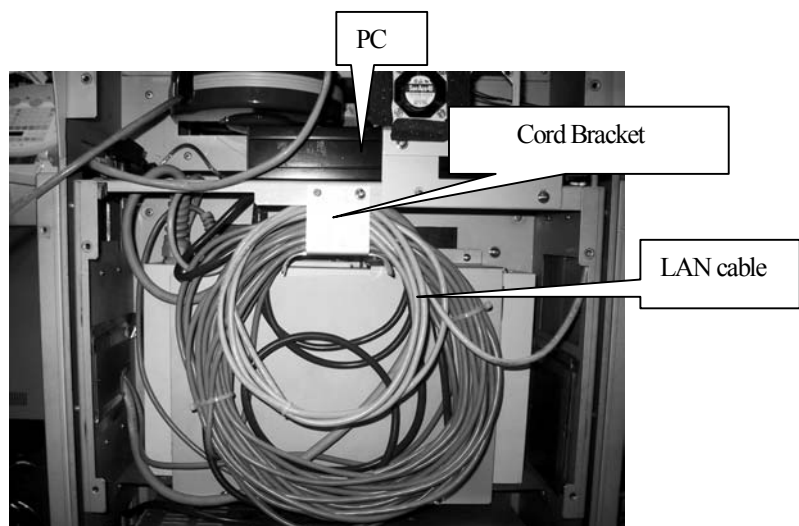

Fig.4-24 Fixing the cables of Power Box
8. Fix the cables to Power Box with the Cord Bracket. (Refer to Fig. 4-24.)